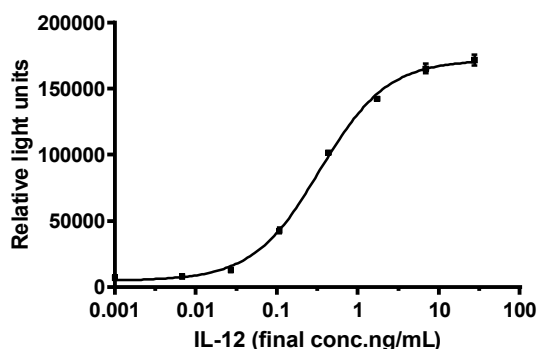

Figure 1. Example of IL-12 calibration curve.
The *iLite*[®] IL-12 Assay Ready Cells are engineered cells, optimized to express Firefly luciferase (FL) under the control of an IL-12 responsive promoter. Binding of IL-12 to the IL-12 receptor (IL12R1 and IL12R2) results in activation of the IL-12 regulated Firefly luciferase reporter gene construct. *iLite*[®] IL-12 Assay Ready Cells also contain the Renilla Luciferase (RL) reporter gene, under the control of a constitutive promoter. The constitutive expression of RL allows normalization of IL-12 induced FL activity, and renders assay results independent of variations in cell number or serum matrix effects. The luciferase signal can be measured in a luminometer following addition and incubation of luciferase substrate. The Firefly luciferase signal is proportional to the concentration of functional IL-12 in a sample (Fig.1).